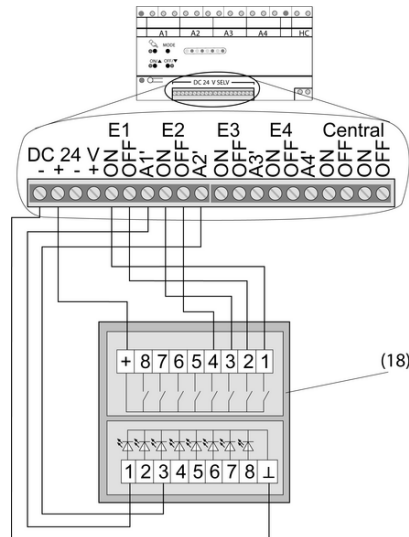
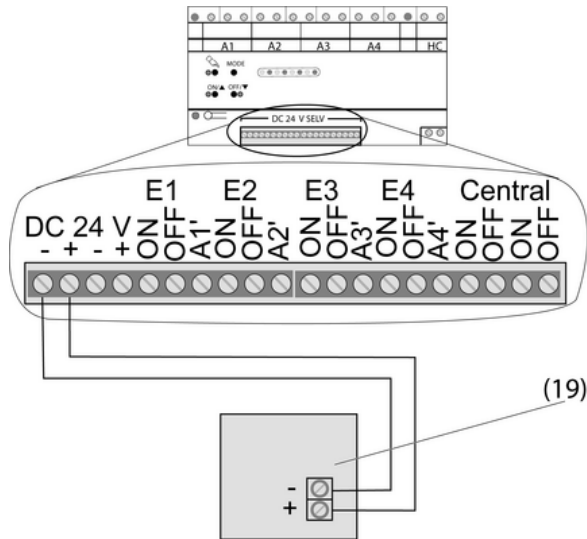
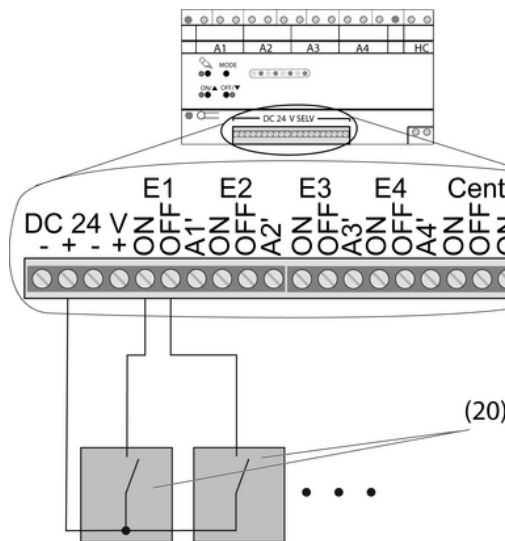

Figure 5: Connection example of push-button 24 V, 4-gang, push-button module 24 V, 4-gang
Figure 6: Connection example for sensor module or push-button module
Figure 7: Wiring example for unlit installation button
- Connect the control section as shown in connection example (figure 5), (figure 6) or (figure 7).